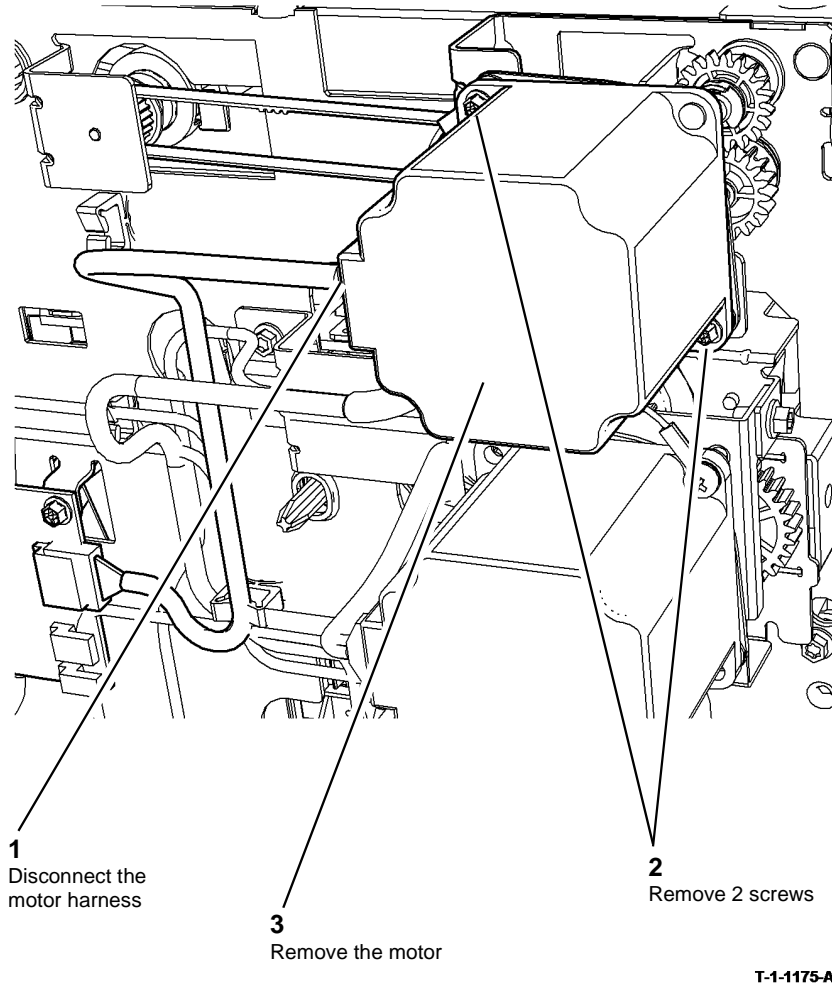

Figure 1 Transport motor removal
- Remove the HCF transport motor, Figure 1.